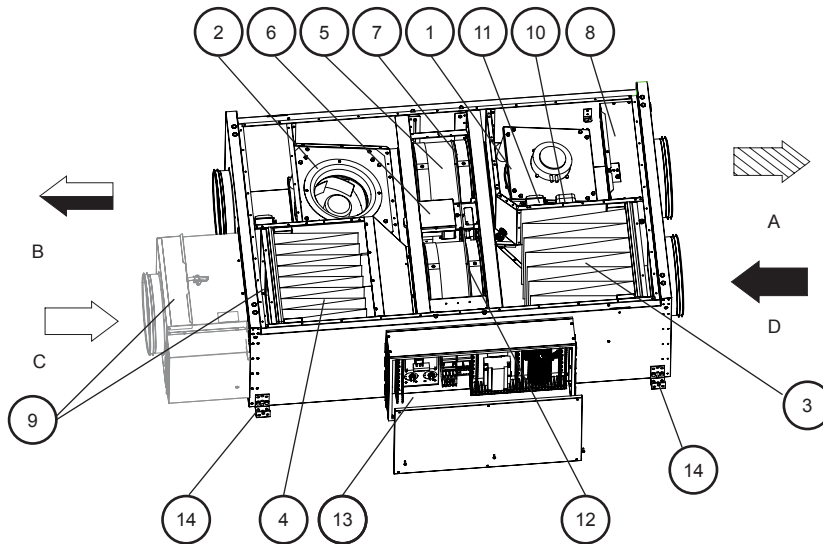

Fig. 1 Topvex FR components
Two pressure transmitters maintain the airflow at a constant level by measuring the differential pressure over the inlet cone of the fan impellers (pos.11 figure 1). The pressure transmitters are installed from factory in all units with CAV control. In VAV units the pressure transmitters will not be mounted in the unit from factory. Instead they will be delivered with the unit to be mounted in the supply and extract air ducts, see "Installation instructions" for more information concerning VAV installations.
A pressure guard measures the differential pressure over the supply and extract air filters (pos.10 figure 1). When the pressure drop reaches the set value an alarm is triggered in the main controller. The differential pressure can be set between 0.2 in.wg. (40Pa) and 1.2 in.wg. (300 Pa). The pressure switch is preset from factory to 1.0 in.wg. (240 Pa).
The rotor motor drives the exchanger rotor with a constant rotational speed as long as there is a heat demand. The motor is controlled by an on/off control signal. (pos.6 figure 1).
A sensor registers the rotation of the heat exchanger rotor. It's connected to the main regulator which gives an alarm if the rotor stops while there is a heat demand (pos.12 figure 1).